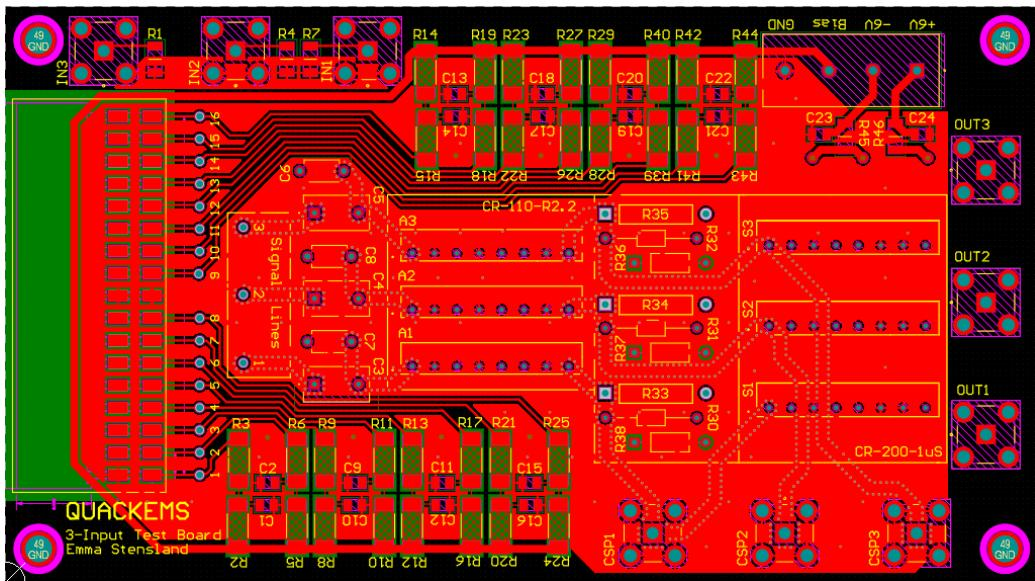

Figure 11: Layer 1 of 3-Input Test Board
1. Ground Plane, Bias Signals, Surface Mount Signals (Fig. 11)